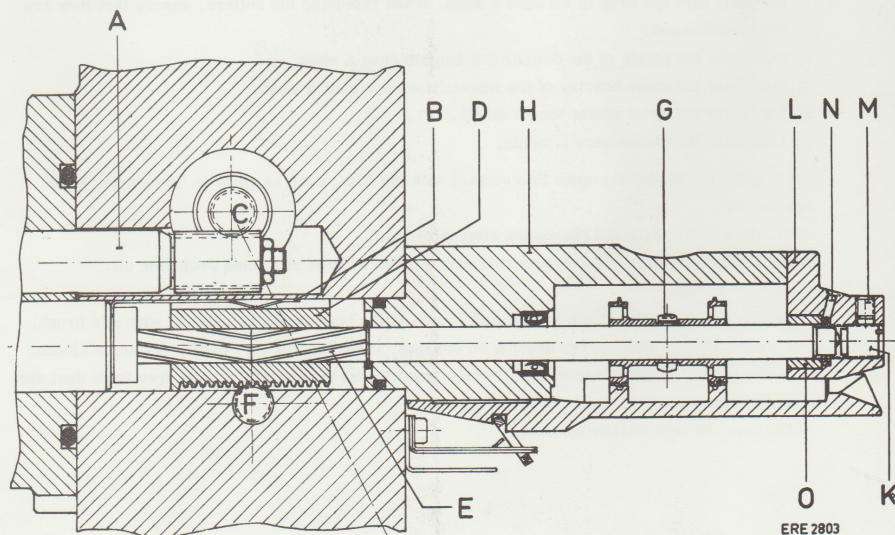
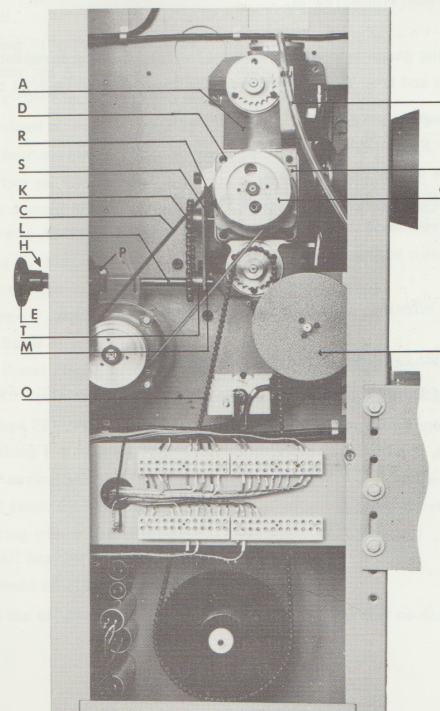

Fig. 3
Fig. 4
- . Drain the oil from projector mechanism A, Fig. 4 via transparent plastic tube B, Fig. 4.
- . Remove the motor belt C, Fig. 4.
- . Loosen the 4 screws D, Fig. 4.
- . Turn framing knob E, Fig. 4 as far as possible clockwise.
- . Carefully pull intermittent unit F, Fig. 4 out of the projector mechanism.
- Ensure that leaf spring B, Fig. 3 does not drop into the projector.
- . If framing bushing D, Fig. 3 remains in the projector mechanism, disassemble this mechanism as follows.
- . Position leaf spring B, Fig. 3 in the groove, bent part down.
- . Subsequently, slide the intermittent unit into the projector mechanism and simultaneously turn the framing knob E, Fig. 4 so that the teeth of the framing bushing engage the teeth of framing shaft F, Fig. 3.
- . After framing shaft F, Fig. 3 has engaged framing bushing D, Fig. 3 turn the flywheel G, Fig. 4 until the shaft of the intermittent unit is in an intermittent position (approx. mid position).
- . Press the intermittent unit as far as possible into the projector mechanism, simultaneously turning the flywheel G slightly to the left and to the right until the teeth of intermittent sprocket shaft E, Fig. 3 engage the nylon bushing of framing bushing D, Fig. 3.
- Ensure that the teeth of the sprocket shaft A, Fig. 3 can properly engage the teeth of the main shaft B, Fig. 18.
- . Turn the four screws D, Fig. 4 in (do not tighten).
- . Check the position of ring H, Fig. 4. The white line on this ring should correspond to the white dot on the projector housing, while the framing mechanism should be in the mid-position.
- . Check that the intermittent unit runs smoothly, also in the two extreme positions of the framing mechanism. If it does not in the extreme pos. turn framing knob E, Fig. 4 slightly back.
Intermittent sprocket Fig. 3, page 10
Pivot screw K for sprocket shaft, Fig. 3, page 10
- Hold the measuring gauge against the slide of the intermittent sprocket and turn framing knob E, Fig. 4 to and fro. The deflection on the gauge should be 0.01 mm (0.000393").
Bearing bushing O for sprocket shaft, Fig. 3, page 10
Framing shaft, inner, Fig. 4, page 11
Framing shaft, outer L, Fig. 4, page 11
- . Remove flywheel N, Fig. 4, page 11
- . Adjust intermittent sprocket with knob E, Fig. 4 to the beginning of an intermittent cycle.